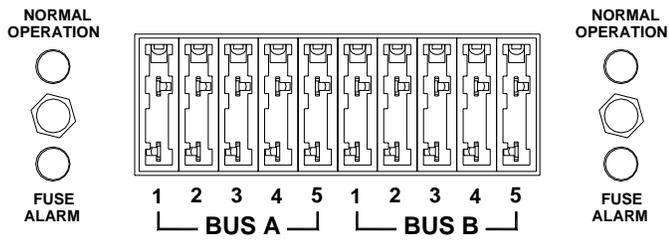
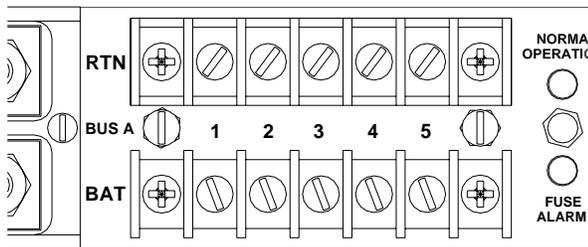

Figure 3.2.1
Figure 4.5.1
1.3. The power is distributed to the load side equipment through GMT style fuses. There are 5 fuses per fuse group and two groups per panel. (See Figure 3.2.1) Each fuse position is available for installer connection on the front of the panel. (See Figure 4.5.1) A designation card is provided for keeping records of which position is connected to which equipment and what amperage is to be used.
1.5. Alarm circuits are provided to alert service personnel of fault conditions. A fuse alarm is caused when any of the GMT distribution fuses opens. A red fuse alarm LED on the faceplate will illuminate and the Normal Operation LED will extinguish to signal a fuse alarm and also the appropriate MAJOR relay contacts will change states. (See Figure 3.2.1) The fuse panel has common (C), normally open (NO) and normally closed (NC) terminals for both Major and Minor alarms. A Major alarm being a fuse or power failure in that bus and a Minor alarm being an external alarm. The external alarm is ground activated (20mA required to activate alarm). Note, the use of the alarm contacts is optional, if you do not wish to extend the alarms, you don't have to do
3.2. Distribution of current from each bus is provided by GMT style fuses. Each bus has 5 fuse holders for distribution, the fuses are labeled 1 to 5 on each bus. (See Figure 3.2.1) Each fuse position is made available on the front of the fuse panel. Maximum output current of each fused position is rated at 15 Amps, provided the maximum bus current or BDFB fuse is not exceeded. (each bus is rated at 50Amps max) Load current should not exceed 66% of the fuse capacity. Fuses should be selected at 1.5 times the maximum current draw of the equipment.
4.5. The battery outputs (“BAT”) are available at the terminal blocks (#6 screw, up to 10awg fork) on the front of the panel. Each fuse position is numbered and that circuit is available at the terminal block position with the same number. (See Figure 4.5.1)
4.6. All battery return (“RTN”) connections are also terminated on barrier strips (#6 screw, up to 10awg fork). Note, these returns are isolated from the chassis frame. (See Figure 4.5.1)